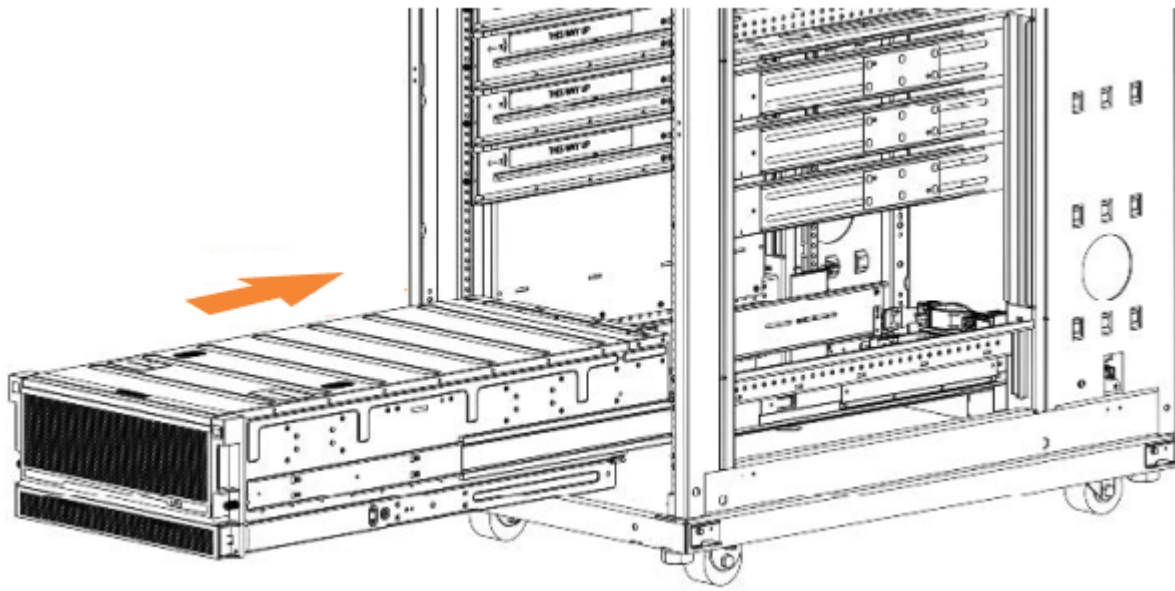

Figure 49. Example installation of the enclosure in the rack
- Install the expansion enclosure in the lowest position in the rack. Figure 49 on page 64 shows an example.